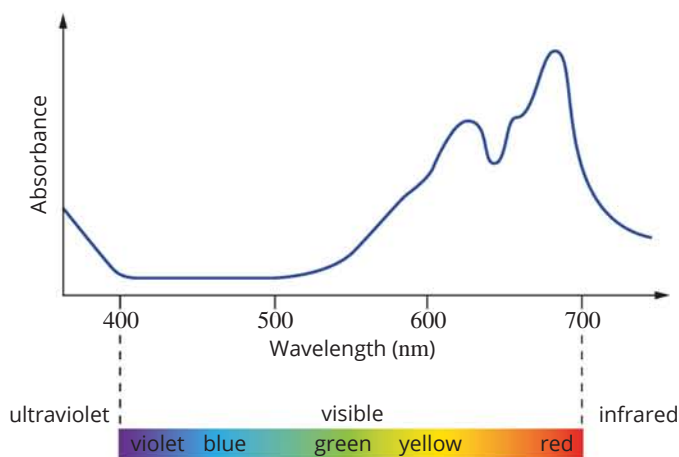

FIGURE 18.4.10
- 1 Two samples of copper(II) sulfate solution with concentrations of 0.080 M and 0.30 M were analysed using a spectrophotometer.
- 2 Why would red light, rather than blue light be used in a colorimeter to measure the concentration of a blue-coloured copper(II) sulfate solution?
- 3 The absorption spectrum of a commercial dye is shown in Figure 18.4.10. The colour chart under the graph shows the colour of each region of the spectrum. What colour is the dye?